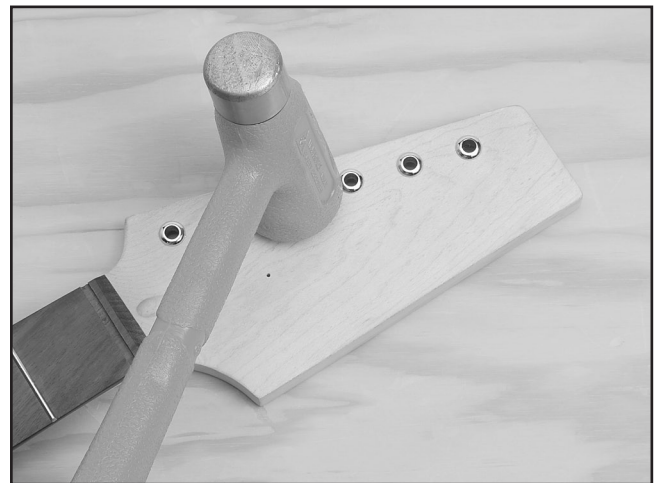

Figure 20. Installing bushings on peghead.
7. Place the pegboard face up on a level surface, and use a dead blow hammer or a dowel in a drill press to drive the six bushings into the tuner mounting holes (**Figure 20**).